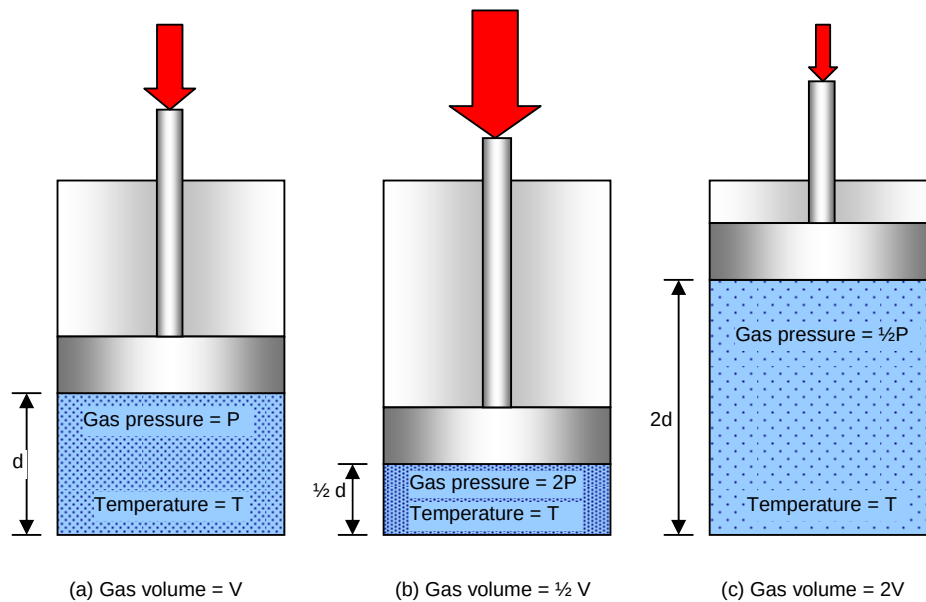
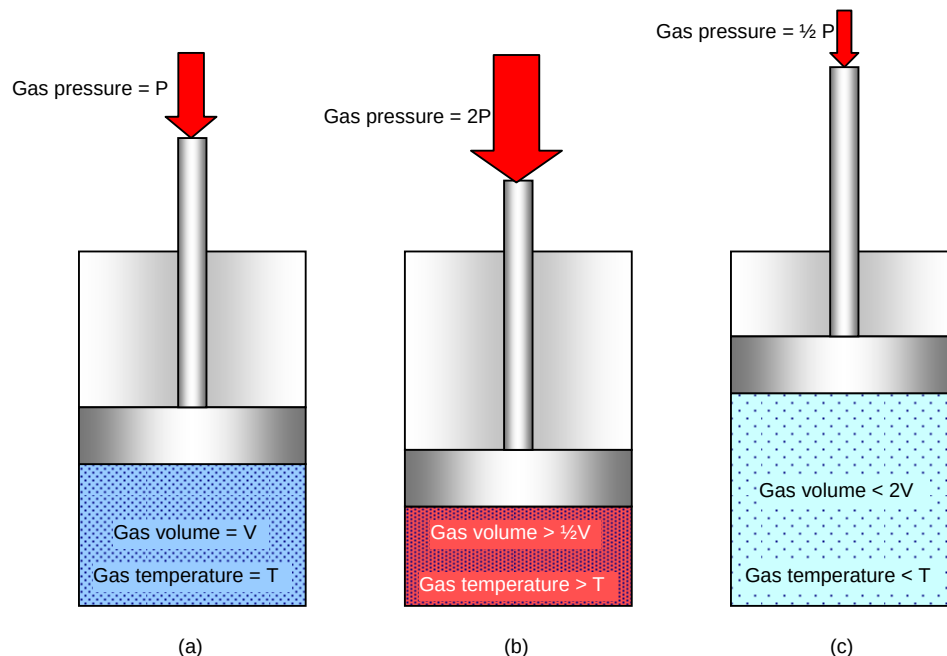

Figure 2.1: Boyles Law
Figure 2.2: Effect of Pressure on Gas Temperature and Volume
If you **reduce** the pressure on a gas the opposite happens. **Figure 2.1** shows these changes.
- if you double the pressure, the volume is halved (**Fig. 2.1(a) to (b)**)
- if you halve the pressure, the volume doubles (**Fig. 2.1(a) to (c)**)
To give the exact relationship between pressure and volume described by Boyle's Law—doubling pressure halves volume—you have to cool the gas to stop its temperature increasing. In **Figure 2.1**, the gas has to be cooled to get from (a) to (b).
Decreasing pressure has the opposite effect—as the pressure decreases its temperature also decreases. To get from (a) to (c) in the **Figure 2.1** the gas has to be heated.
When gas pressure is increased in a compressor, it can not be kept at the same temperature. As the gas is compressed, its temperature rises. **Figure 2.2** shows how the temperature change affects the volume of a gas. The pressure changes here are the same as those shown in **Figure 2.1**.
In **Figure 2.2(a) to (b)**, when the pressure of the gas is doubled, the gas gets hotter ($>T$) and tries to expand. The volume of the gas is more than it would be if the gas temperature remained constant ($>\frac{1}{2}V$).
Decreasing the pressure has the opposite effect. **Figure 2.2 (a) to (c)** shows that when the pressure of the gas is halved, the gas gets cooler ($<T$) and tries to contract. The volume of the gas is less than it would be if the gas temperature remained constant ($<2V$).